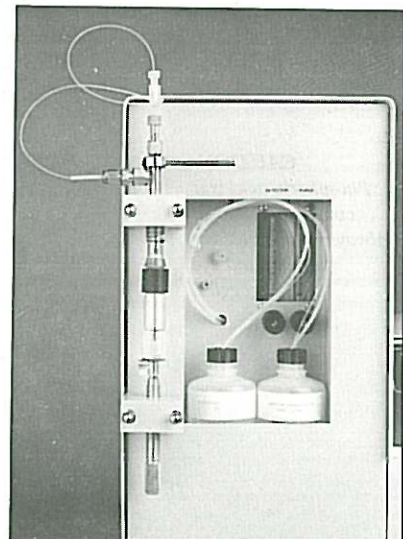

Fig. 4.30 Ampule Breaking Assembly
- Mount an ampule prepared for blank determination in the ampule breaking assembly as shown in Fig. 4.30.
- Mount an ampule prepared for TOC determination in the ampule breaking assembly as shown in Fig. 4.30.